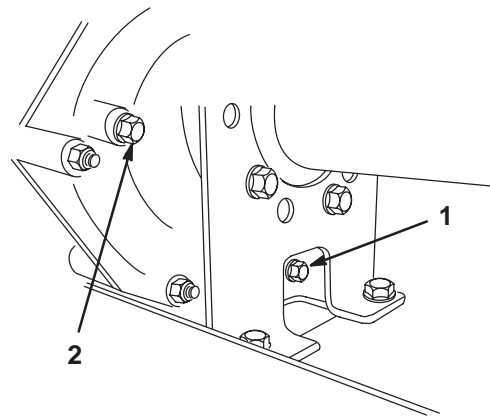
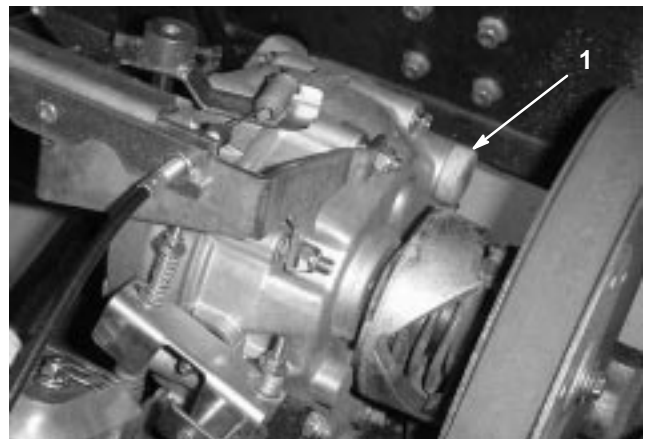

Figure 34
Figure 35
2. Remove the drain plug from the right side of the reservoir (Fig. 34) and let the fluid flow into a drain pan. Install and tighten the plug when the fluid stops draining.
3. Fill the reservoir (Fig. 35) with approximately 1-1/2 qt. (1.4 liters) of SAE 10W30 motor oil or until the oil level is at the bottom of the level indicator hole (Fig. 34).